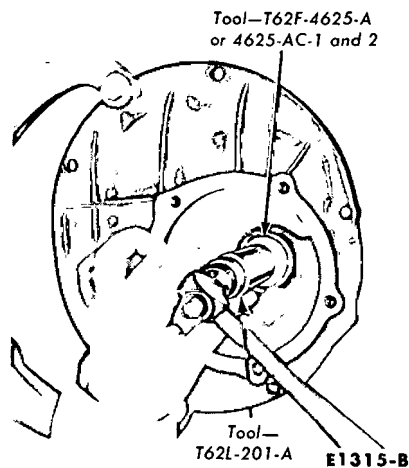

FIG. 41—Installing Pilot Bearing
2. Drive the new bearing in until it bottoms as shown in Fig. 41. On vehicles with high performance engines, use handle adapter, 753L-200A with tool 753L-4625-A, or 4625-K, or 4625-KA.